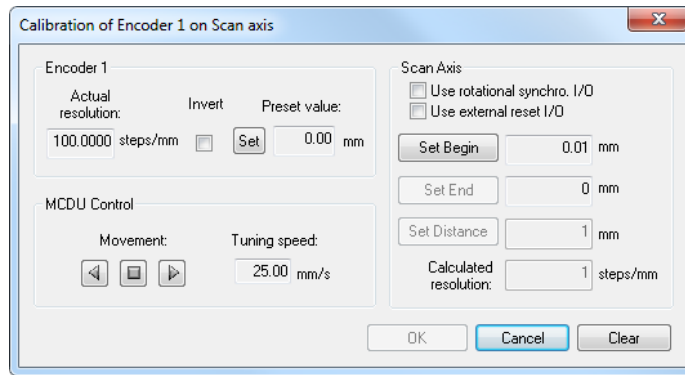

Figure 5-15 The Calibration of Encoder dialog box for encoder 1 on the scan axis
4. While in the **Calibration of Encoder** dialog box (see the example shown in Figure 5-15 on page 311):